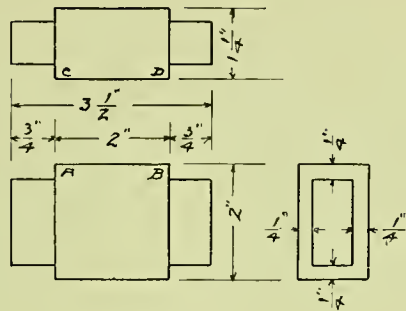
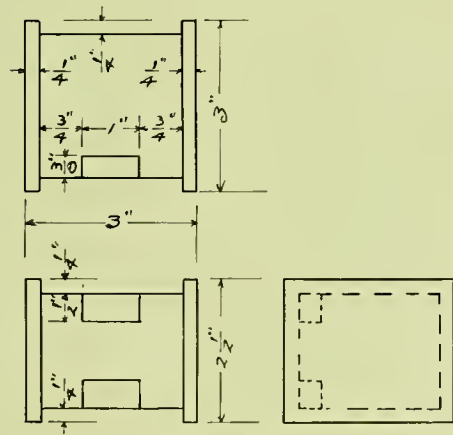

FIG. 1.
FIG. 3.
Figs. 3 and 4 are cabinet drawings, and should be located in the space in which they are to be drawn so that they will appear well, beginning with the front view.
5. In Fig. 1, $3\ 1/2''$ is the length. If you measure this length it is less. Why?
8. Figs. 3 and 4 show hidden parts. Why are there none shown in Figs. 1 and 2?